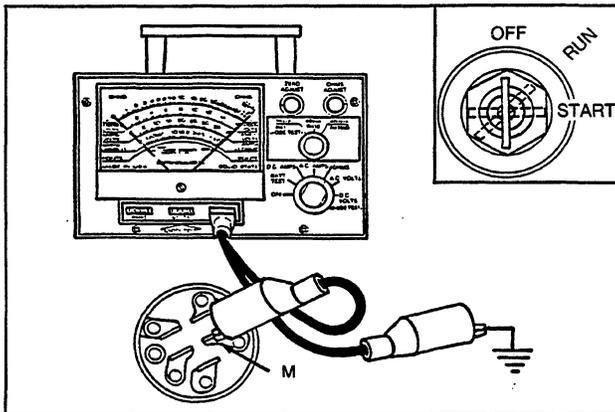

Fig. 46 — Checking Stop Switch
To test stop switch, connect V.O.A. meter, Tool #19236, to stop switch terminal (M) and ground. If key switch is mounted to an insulated panel use ground terminal (G). Fig. 46. Contact surfaces must be free of paint, rust or dirt.
With key in "OFF" position there should be continuity. With key in "RUN" and "START" position there should be no continuity, Fig. 46.